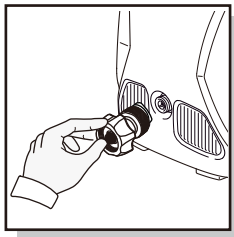

Fig. 10
- Attach collar of garden hose adapter directly to power washer water inlet. Hand tighten (Fig. 10).